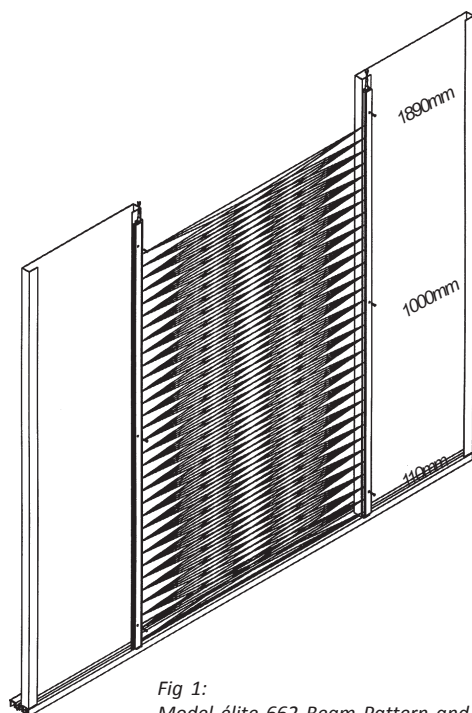

Fig 1:
In this "static installation" a criss-cross curtain of 154 infra-red beams is generated (see Fig 1). The detector cables are not subjected to movement and the detectors are protected from vandalism.
The detectors are simple to install either dynamically or statically. Figs 2a, 2b and 2c show the brackets used for static installation, which are available from Memco (ref. 662 800-011). Dynamic installation is by three No 6 self-tapping screws as shown in Fig 1. The detectors are wired directly to the door operator/lift controller, as shown in Fig 3.